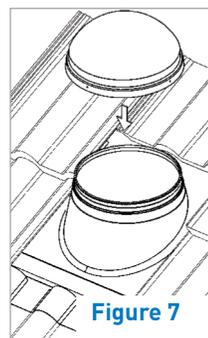

Figure 7
- **(For 250mm and 350mm systems)** Place the polycarbonate dome over the tube and push down over the brush seal until the dome has located onto the shoulder of the roof mounting unit. Using the holes in the dome edge as a guide, drill 3mm pilot holes into the sides of the roof flashing unit and through to the tube (**Figure 7, 7a or 7b depending on which secondary glazing and LSD options being used**).